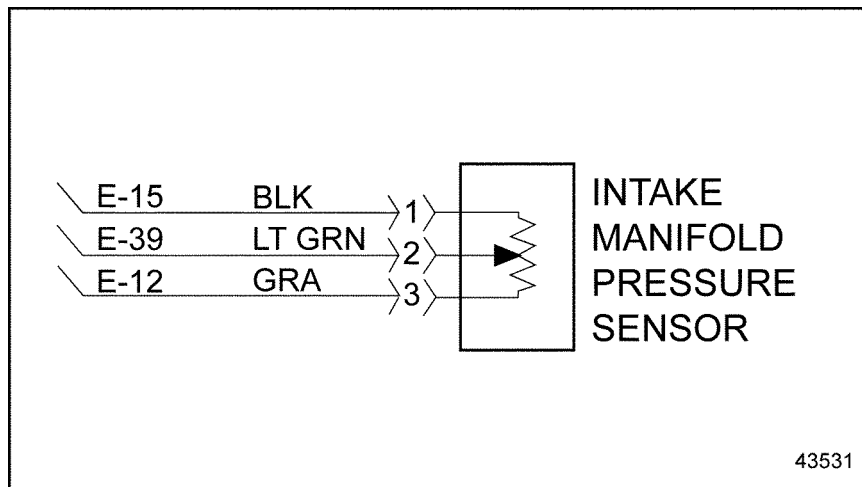

Figure 37-2 Turbo Boost/Intake Manifold Pressure Sensor
3. Install a jumper wire between sockets 2 and 3 of the TBS/IMP Sensor harness connector. See Figure 37-2.